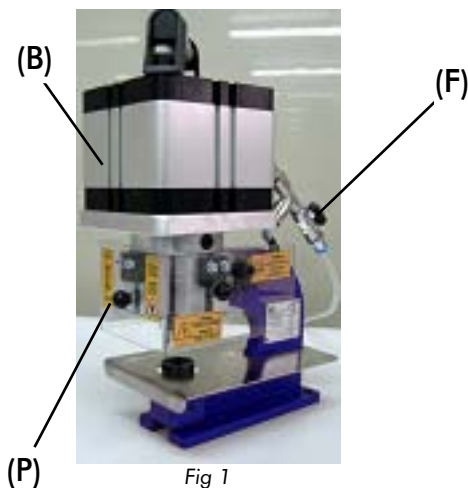

Fig. 1
- The machine has an air inlet valve to manually open and close the air supply to the pneumatic cylinder "F" (Fig. 1); When the machine is not in use, it should be shut (see Fig. 5), to avoid accidents when use by a third party. We also suggest disconnecting the hosepipe from the compressor for safety reasons.
WARNING: Shut the general air inlet valve "F" (see Fig. 1) to change dies, make adjustments, install optional equipment or any other handling.
WARNING: To change the setting dies it will be necessary at some point to connect the air hosepipe to the compressor and open the air inlet valve "F" (see Fig. 1).